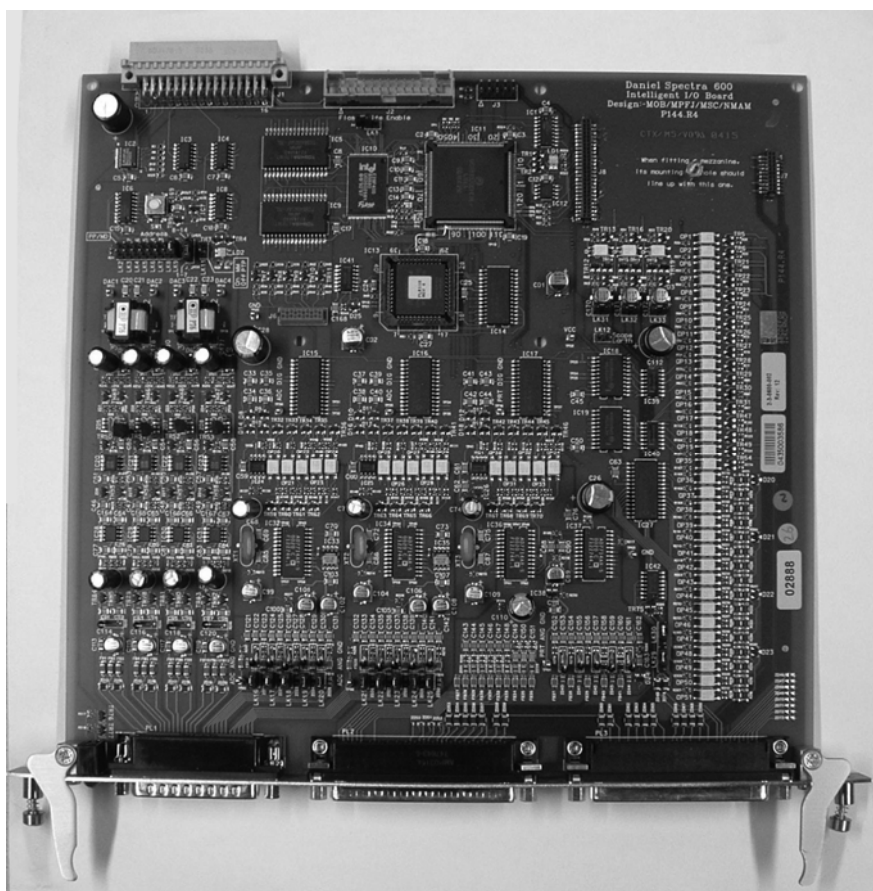

Figure 4-2. P144 I/O Board
The P144 I/O board measures process signals the CPU uses while running the flow computer functions. The I/O board is comprised of 12 analogue inputs (AI), 4 analogue outputs (AO), 16 digital inputs (DI), 12 digital outputs (DO), 4 pulse inputs (PI), 5 pulse outputs (PO), 3 frequency (density) inputs, and 3 PRT/RTD inputs. Refer to Figure 4-2 for the P144 I/O board terminations.